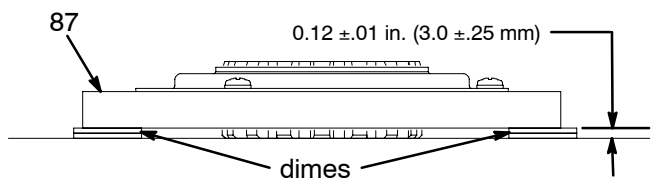

**Fig. 7**
9. Fig. 7. Use an impact wrench or wedge something between armature (87) and clutch housing to hold engine shaft during removal.
10. Remove four screws (175) and lockwashers (172).
11. Remove armature (87).